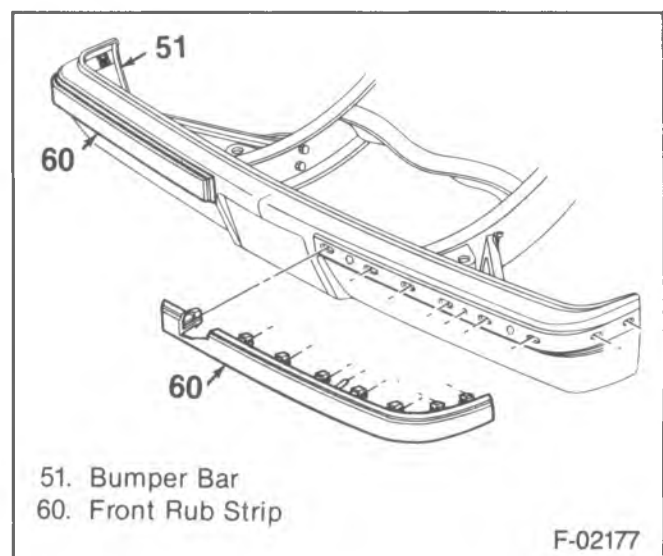

Figure 6—R/V Front Bumper Rub Strip
5. Rub strips from the bumper and guards (where used) (figure 6).